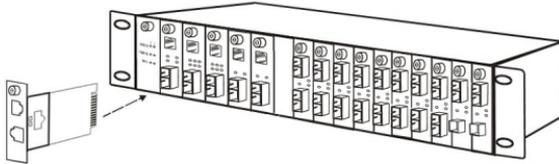

Figure 3
Step 1: Install the management module by replacing the original DMC-1000 module in the first slot of the chassis with the DMC-1002, as shown in Figure 3. Note that the first slot (CPU slot) of the DMC-1000 is always reserved for mounting the DMC-1002 module. Due to its unique slot connector design, the DMC-1002 cannot be placed in any other slot in the chassis.